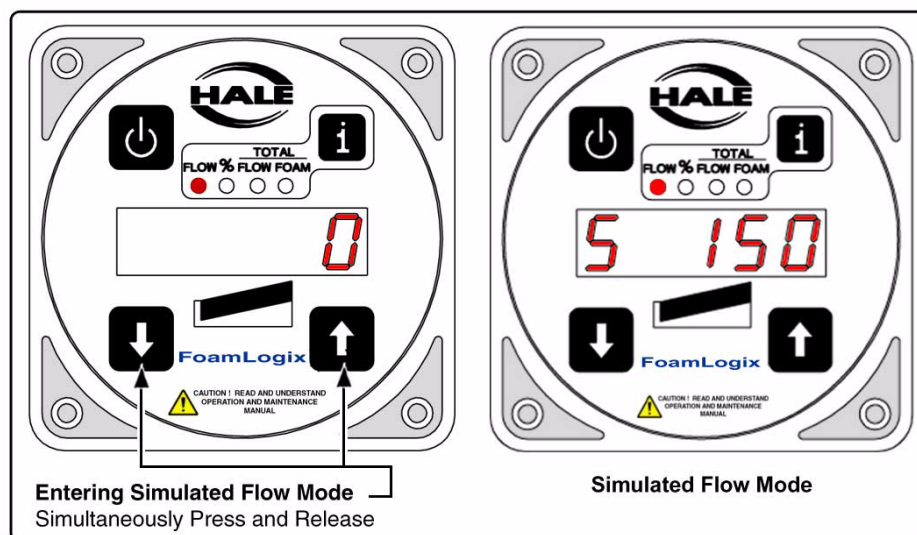

Figure 4-2: Simulated Flow Mode Display
2. Place the system in simulated flow mode by selecting the **FLOW** display and pressing both **↑** and **↓** buttons simultaneously. (See Figure 4-2: “Simulated Flow Mode Display.”)